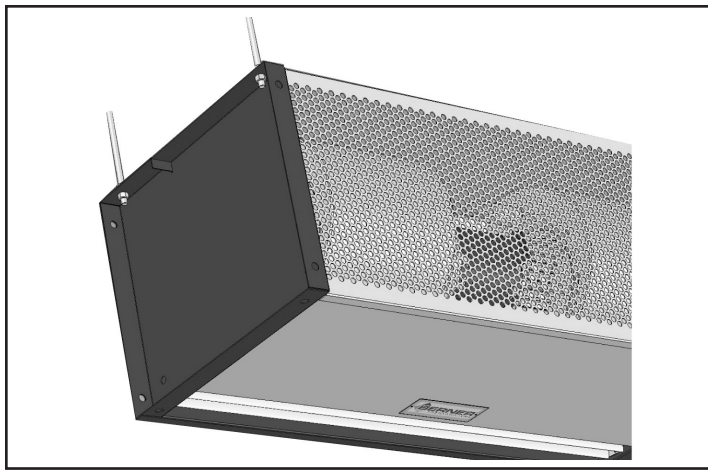
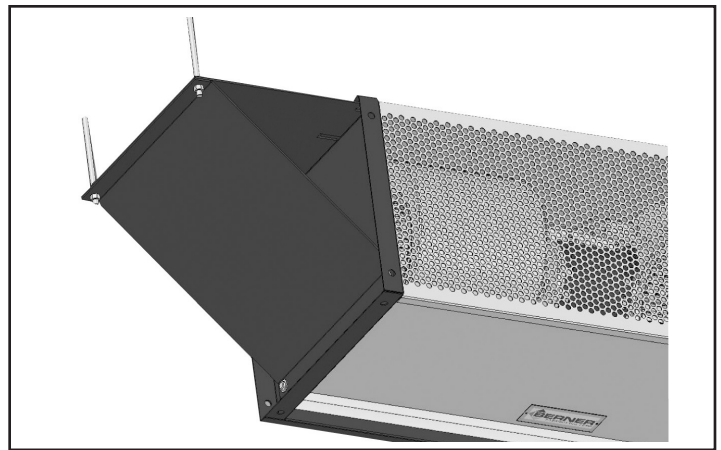

FIGURE 3 - Threaded Rod Suspension
FIGURE 4 - With Extension Brackets
- B. The IDC12/IDC14 Series end plates are equipped with $\frac{1}{2}$ " holes for suspended mounting. The unit may be suspended using a minimum $\frac{3}{8}$ " suspension rod (**Figure 3**), or using $\frac{3}{8}$ " suspension rods and extension brackets (available from Berner). **See Figure 4.**